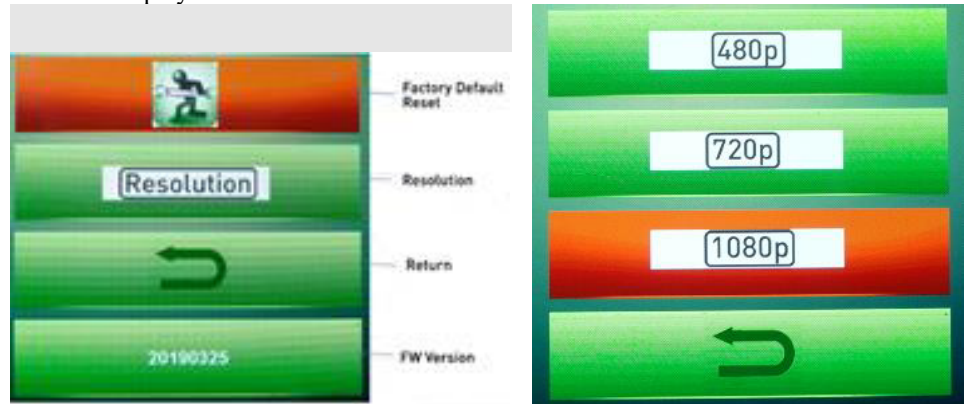

Figure 10
17. Factory Default: Reset to default setting. **Fig. 10**